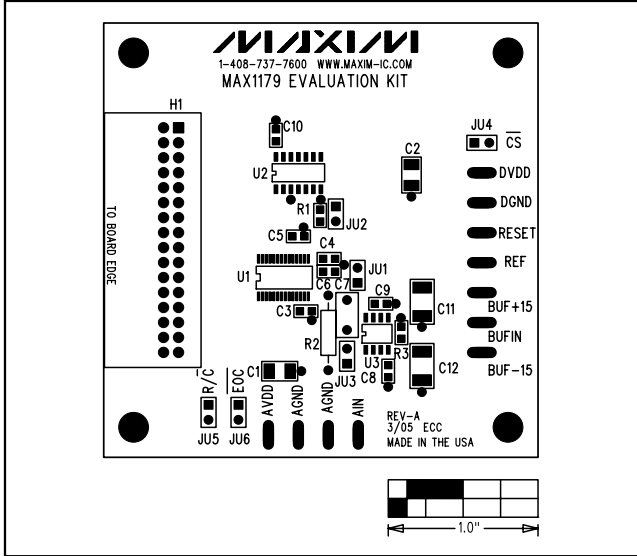

Figure 2. MAX1179 EV Kit Component Placement Guide—Component Side
- 4) Configure the pattern generator to produce the appropriate read/convert (R/\overline{C}) and conversion start (\overline{CS}) waveforms. Refer to Figure 2 in the MAX1179 data sheet.